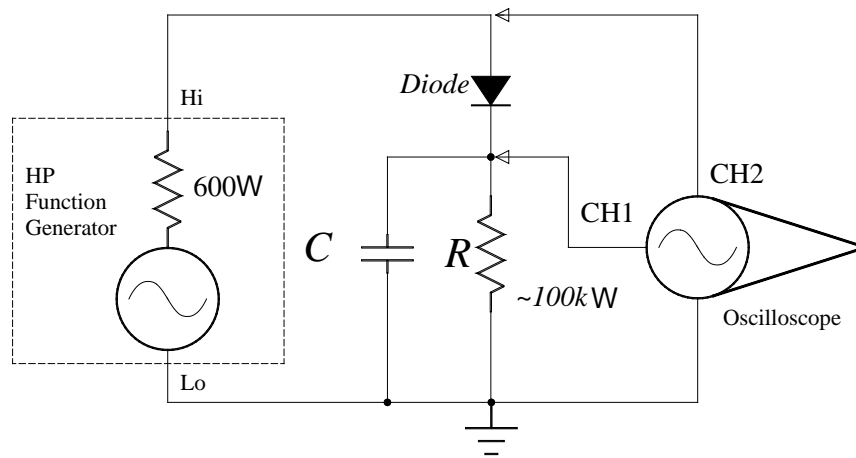
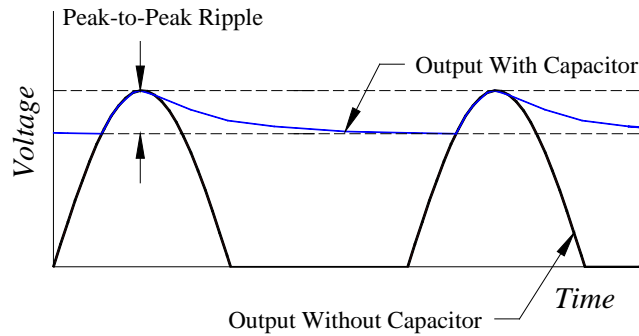

Figure 8 Schematic diagram of a simple DC power supply.
Figure 9 Wave forms for the voltage across the $100k\Omega$ resistor. Note the function generator voltage is not shown.
In last week's lab you observed that a diode does not obey Ohm's Law. Now you will be able to see why it can be desirable to have a device with such behavior. Construct the circuit in Figure 8 using the diode and a 100k Ω resistor, but for the time being omit the Capacitor. When using diodes it is important to pay attention to which way you install them in a circuit. The tip of the arrow in the schematic diagram points in the direction the diode allows current to flow. In the physical diode, the end with a stripe corresponds to the tip of the arrow in the schematic.
15) Now add capacitor C_1 into the circuit as shown in Figure 8. Sketch the wave forms for CH1 and CH2 as you did above. Your sketches for the voltage across the resistor should look similar to that shown in Figure 9.